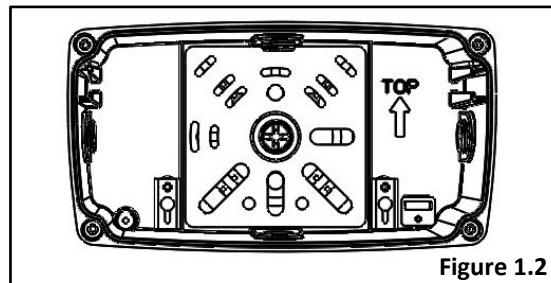

Figure 1.2
2. Attach the back box to the wall with the arrow facing upward. Seal two sides, top and the screw holes of the back box using silicone, insure fixture is level with the included level (Fig. 1.2).